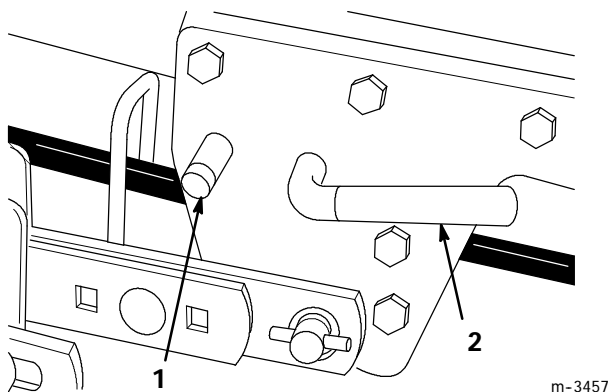

Figure 21
9. Press the button of the mid Attach-A-Matic™ and twist the lever clockwise to release the mower (Fig. 21).